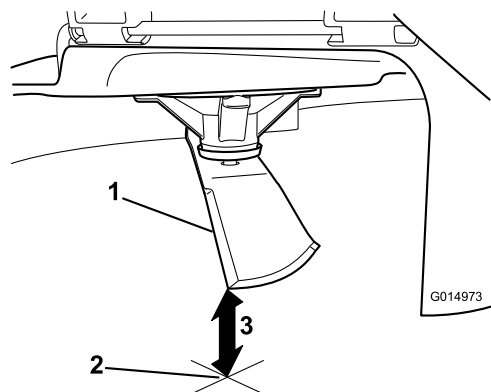

Figure 52
5. Measure from the tip of the blade to the flat surface (Figure 52).